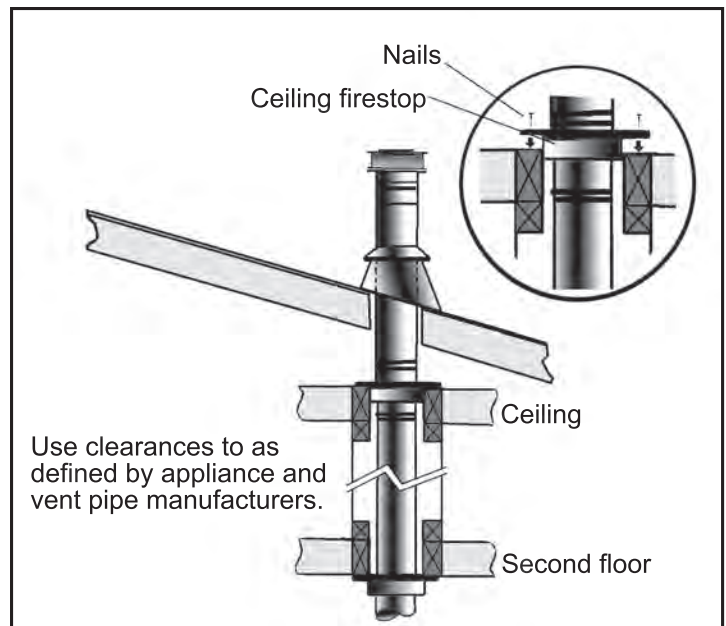

**Figure 44: Use of Wall Straps.**
- (1) If an offset is necessary in the attic to avoid obstructions, it is important to support the vent pipe every 3 feet (914 mm), to avoid excessive stress on the elbows, and possible separation. Wall straps are available for this purpose (see Figure 44).
- (2) When ever possible, use 45° degree elbows instead of 90° degree elbows. The 45° degree elbow offers less restriction to the flow of flue gases and intake air.